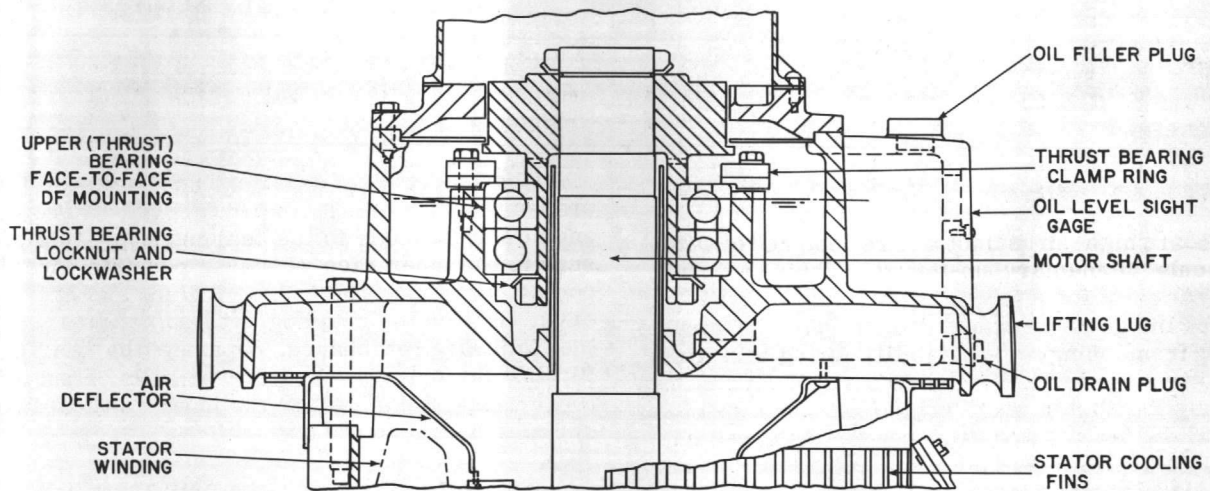

Fig. 5. Upper end of a typical solid-shaft motor which must withstand continuous up-thrust with DF-mounted bearings. Available on 364 frames and above.
Motors which must withstand continuous up-thrust have a somewhat different construction. The upper (thrust) bearing is arranged to take this up-thrust, and it consists of angular-contact thrust bearings arranged for face-to-face (DF) mounting. (See Fig. 5.) The inner rings are locked on the lower-half coupling with a nut and the outer rings are clamped in the end shield with a ring.